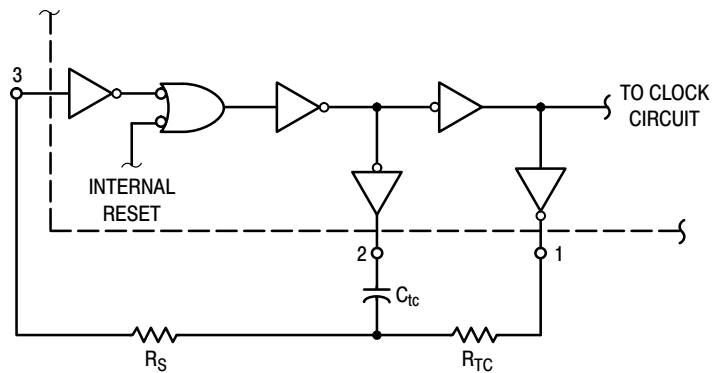

Figure 3. Oscillator Circuit Using RC Configuration
4. When using the on chip oscillator the total supply current (in μAdc) becomes: IT = ID + 2 Ctc VDD f × 10–3 where ID is in μA, Ctc is in pF, VDD in Volts DC, and f in kHz. (see Fig. 3) Dissipation during power-on with automatic reset enabled is typically 50 μA @ VDD = 10 Vdc.
The RC oscillator as shown in Figure 3 will oscillate with a frequency determined by the external RC network i.e.,